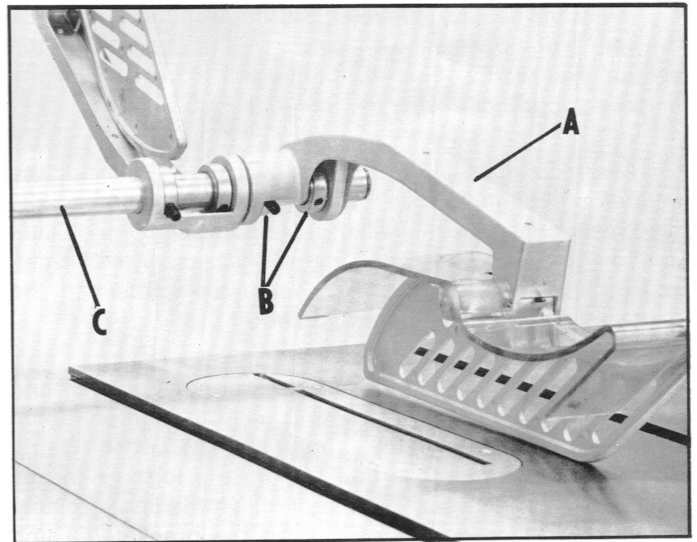

Fig. 19
8. Place the basket and shield assembly (A) Fig. 19, and two collars (B) on the support arm (C) and tighten set screws in collars (B) by following instructions listed in STEP 7.